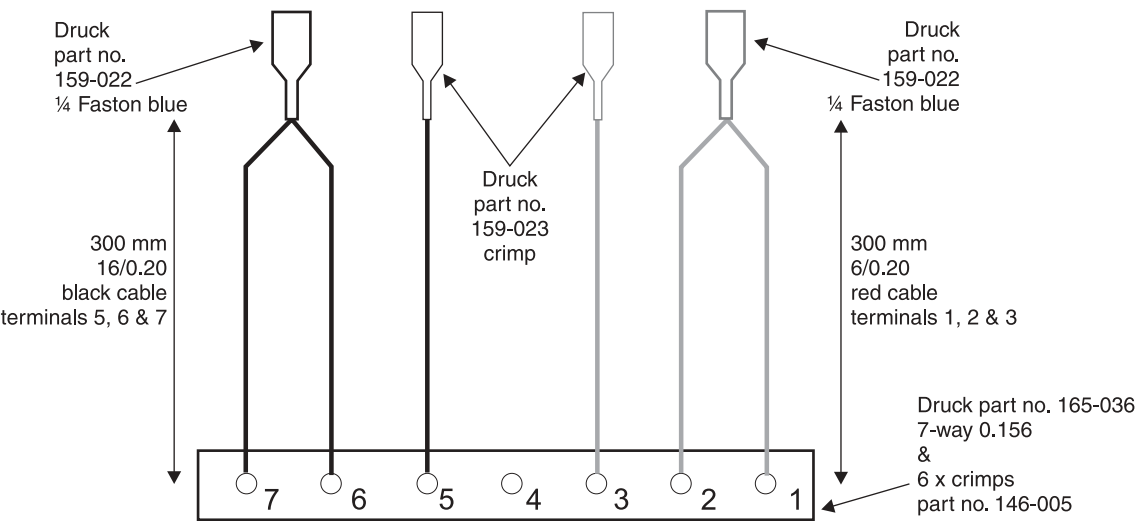

Fig. 3-1 Motor controller cable loom
3. Refer to the new component list on page 3-6 and to figure 3-1 to produce a new cable loom.